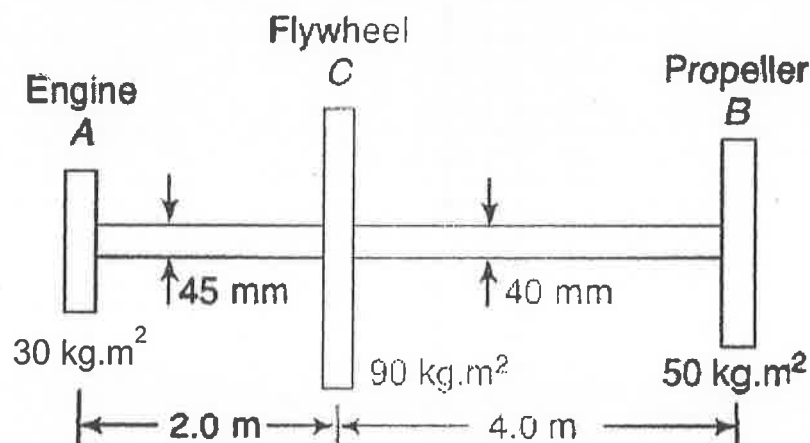

Figure 15(b)
- (b) A torsional system is shown in figure 15(b). Find the frequencies of torsional vibrations and the positions of the nodes. Also, find the amplitudes of vibrations.  $G = 84 \times 10^2 \text{ N/m}^2$